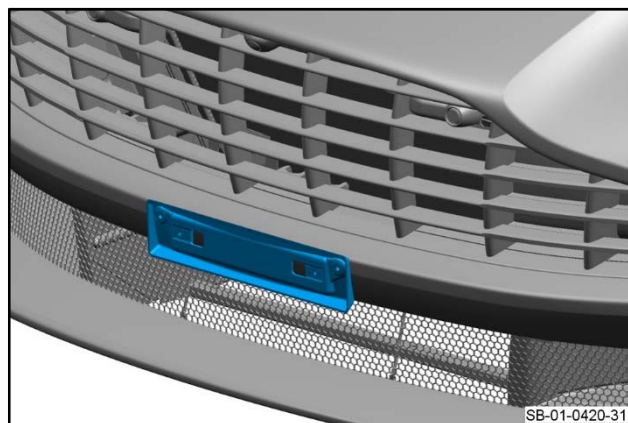

Figure 30
11. Put the front license plate plinth into position (refer to Figure 30).